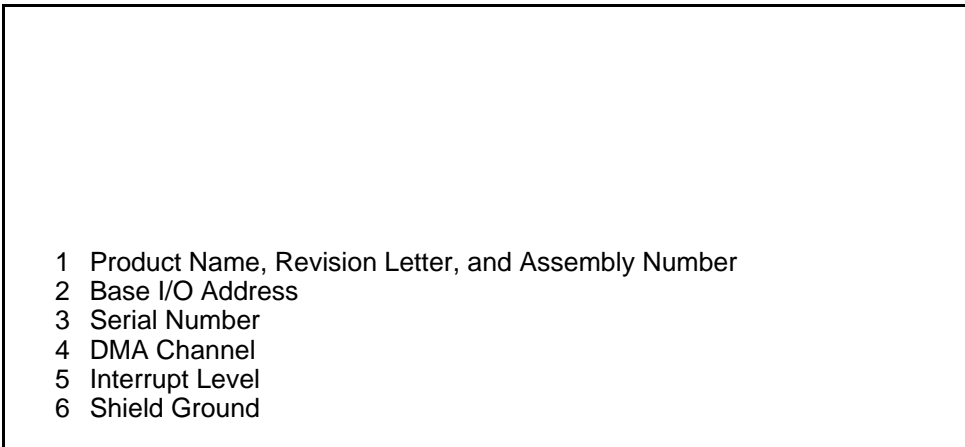

Figure 2-2. TNT4882 Evaluation Board Parts Locator Diagram
| Figure 2-2. | TNT4882 Evaluation Board Parts Locator Diagram | 2-4 |
Figure 2-2 shows the location of the configuration jumpers and switches on the TNT4882 evaluation board.
2. Locate the base I/O address switch at SW1 on your TNT4882 evaluation board. Refer to Figure 2-2.
2. Locate the jumpers that set the DMA channel. Refer to Figure 2-2.
1. Refer to Figure 2-2 to locate the shield ground jumper W3.